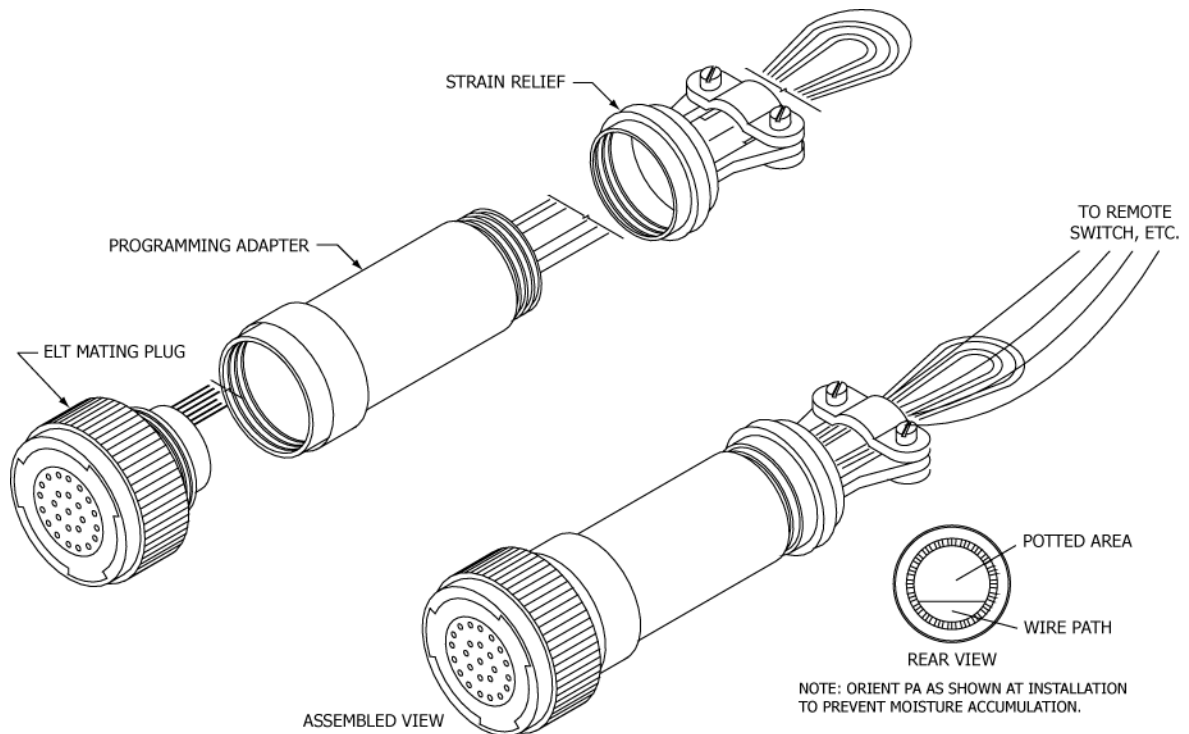

Figure 22 Programming Adapter
- 2) The PA circuitry is encapsulated in the back shell extension and has four wires, with pre-installed contact sockets, that exit the rear of the PA. See Figure 22.